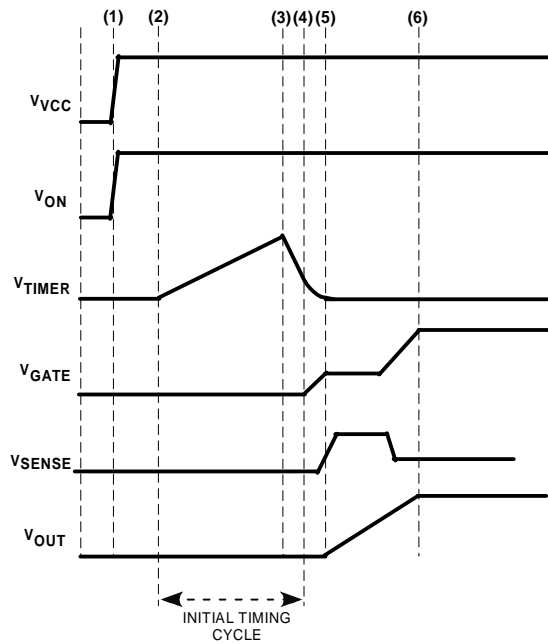

Figure 4. Start-up (ON asserts as power is applied)
When VCC is first connected to the backplane supply, there is an internal supply (time-point (1) in Figure 4) in the ADM1175 which needs to charge up. A very short time later (significantly less than 1 ms) the internal supply will be fully up and, since the undervoltage lockout voltage has been exceeded at VCC, the device will come out of reset. During this first short reset period the GATE pin is held down with a 25 mA pulldown current, and the TIMER pin is pulled down with a 100  $\mu\text{A}$  current sink.
When the initial timing cycle terminates, the device is ready to start a hotswap operation (assuming ON/ONB pin is asserted). In the example shown in Figure 4, the ON pin was asserted at the same time as VCC was applied, so the hotswap operation starts immediately after time-point (4). At this point the FET